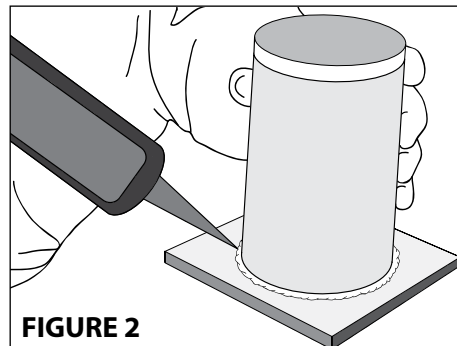
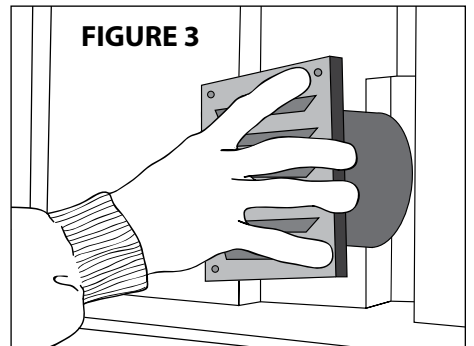

FIGURE 2
FIGURE 3
3. Press the outer adapter onto the louvered exterior vent. Fit additional pipe selections so that the total length is just slightly less than the wall thickness. Apply a 1/4" bead of caulk on the interior side of the outer adapter. **See Figure 2.** Fix the pipe in place using four of the screws provided. **See Figure 3.** The optional sound-reducing sleeve is designed to be field-cut to the exact wall thickness. This sleeve requires a 6" diameter hole.